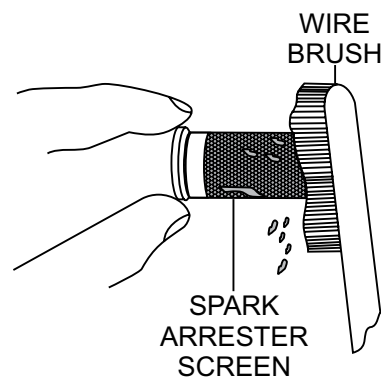

Figure 59. Cleaning The Spark Arrester
4. Carefully remove carbon deposits from the spark arrester screen (Figure 59) with a wire brush.